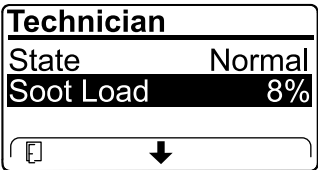

Figure 36
- View the soot load which is measured as the percentage of soot in the DPF (Figure 36); refer to the soot-load table.